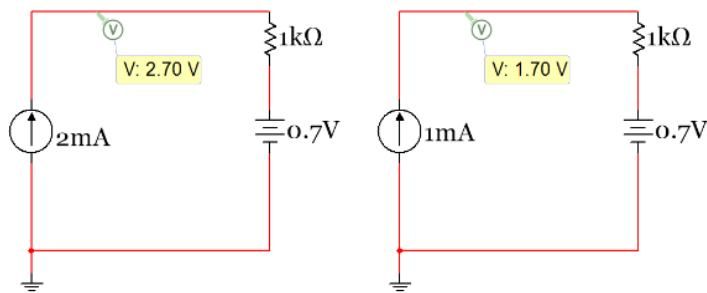
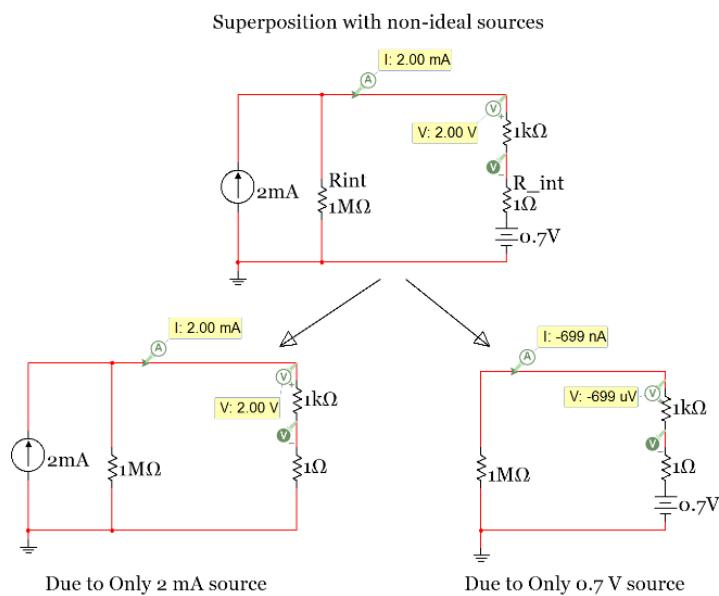
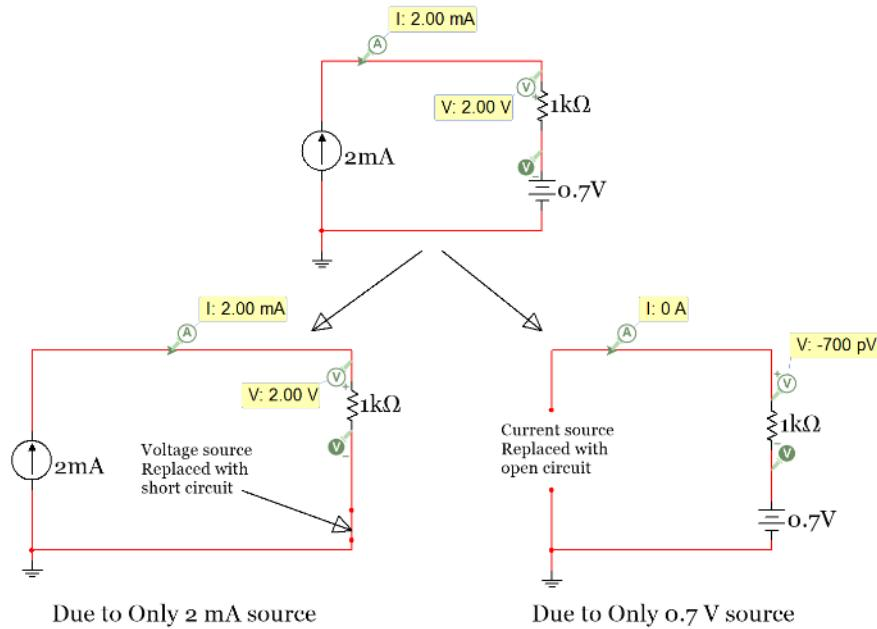

Figure 2.32: Example of a linear system - Circuit with a resistor and a diode that is replaced with a battery.
Figure 2.33: Example of Superposition with Non-Ideal Sources - The 0.7V battery has a negligible effect
Figure 2.34: Example of Superposition with Ideal Sources
using Newton's 2nd Law all of the forces acting on the mechanical body result in the body having a net acceleration. If the system is linear then superposition can be used where the acceleration due to each individual force is calculated one at a time. All of the individual accelerations could then be added together and the resulting total acceleration that results would be the same as solving the system all in one step with all forces in the same calculation. This same process can also be used for independent sources in electrical linear systems. The only thing that complicates the superposition procedure for linear circuits is what to do with the "other sources" that are physically connected to the circuit as you solve the circuit one source at a time. If the sources are not ideal, then the "other sources" are replaced with their internal resistance. Recall in Figure 1.3 of Module 1 that a non-ideal voltage source is modeled as a battery in series with a small resistor. This small resistor (called R_{int}) is the internal resistance. A non-ideal current source is modeled as a large resistor in parallel with the current source. If the sources of the circuit in Figure 2.32 are replaced with a non-ideal current source with internal resistance of $1\text{ M}\Omega$ for the current source and $1\text{ }\Omega$ in series to transform the ideal voltage source to a non-ideal voltage source, the results are shown in the top circuit in Figure 2.33. The voltage across the $1\text{ k}\Omega$ resistor is approximately 2 V , which is the same value as obtained in the circuit in Figure 2.32 with ideal sources. The value is approximately the same because the values of R_{int} in this case for the current and voltage sources have minimal effect on the circuit.
For sub-problem 1 (on the left side of Figure 2.33) the voltage source must be "zeroed out" and for sub-problem 2 (on the right side of Figure 2.33) the current source must be "zeroed out" so that only the internal resistance remains for both. To zero out an independent source the following is done:
The magnitude of the voltage and current of the $1\text{ k}\Omega$ resistor in the bottom-left circuit in Figure 2.33 due to only the 2 mA current source (sub-problem 1) can be calculated as follows:
- $I_{1k\Omega_1} = 2\text{ mA}$ because the source forces 2 mA through the loop (verified by Multisim in Figure 2.33).
- $V_{1k\Omega_1} = I_{1k\Omega_1} \cdot 1\text{ k}\Omega = 2\text{ mA} \cdot 1\text{ k}\Omega = 2\text{ V}$ (as verified by Multisim in Figure 2.33).
In this example the 0.7 V has very little effect on current or voltage through the $1\text{ k}\Omega$ resistor since there is a $1\text{ M}\Omega$ resistance in the circuit. The magnitude of the voltage and current of the $1\text{ k}\Omega$ resistor in the bottom-right circuit in Figure 2.33 Due to only the 0.7 V voltage source (sub-problem 2) can be calculated as follows:
- $I_{1k\Omega_2} = (0.7\text{ V})/(1\text{ M}\Omega + 1\text{ k}\Omega + 1\text{ }\Omega) = 6.99\text{E-7 A}$ or 699 nA (as verified by Multisim in Figure 2.33).
- $V_{1k\Omega_2} = I_{1k\Omega_2} \cdot 1\text{ k}\Omega = 699\text{ nA} \cdot 1\text{ k}\Omega = 6.99\text{ E-4}$ or $699\text{ }\mu\text{V}$ (as verified by Multisim in Figure 2.33).
- $I_{1k\Omega} = I_{1k\Omega_1} + I_{1k\Omega_2} = 2\text{ mA} - 699\text{ nA} = 1.9993\text{ mA}$ (rounded to 2 mA in Multisim, top circuit in Fig 2.33)
- $V_{1k\Omega} = V_{1k\Omega_1} + V_{1k\Omega_2} = 2\text{ V} - 699\text{ }\mu\text{V} = 1.9993\text{ V}$ (rounded to 2 V in Multisim, top circuit in Fig 2.33)
In this course we will only deal with Ideal independent sources so the internal resistance doesn't have to be included. For ideal voltage sources the internal resistance is zero (replace R_{int} in Figure 2.33 with a short circuit) and for ideal current sources the internal resistance is infinity (replace R_{int} in Figure 2.33 with an open circuit). If the sources in the circuit in Figure 2.33 are ideal then Figure 2.34 shows how the circuit would look and how the circuits for the 2 sub-problems would look.
- $I_{1\text{k}\Omega} = I_{1\text{k}\Omega_1} + I_{1\text{k}\Omega_2} = 2\text{ mA} - 0\text{ A} = \underline{\underline{2.0\text{ mA}}}$ (Matches top circuit in Fig 2.34)
- $V_{1\text{k}\Omega} = V_{1\text{k}\Omega_1} + V_{1\text{k}\Omega_2} = 2\text{ V} - 0\text{ V} = \underline{\underline{2.0\text{ V}}}$ (Matches top circuit in Fig 2.34)